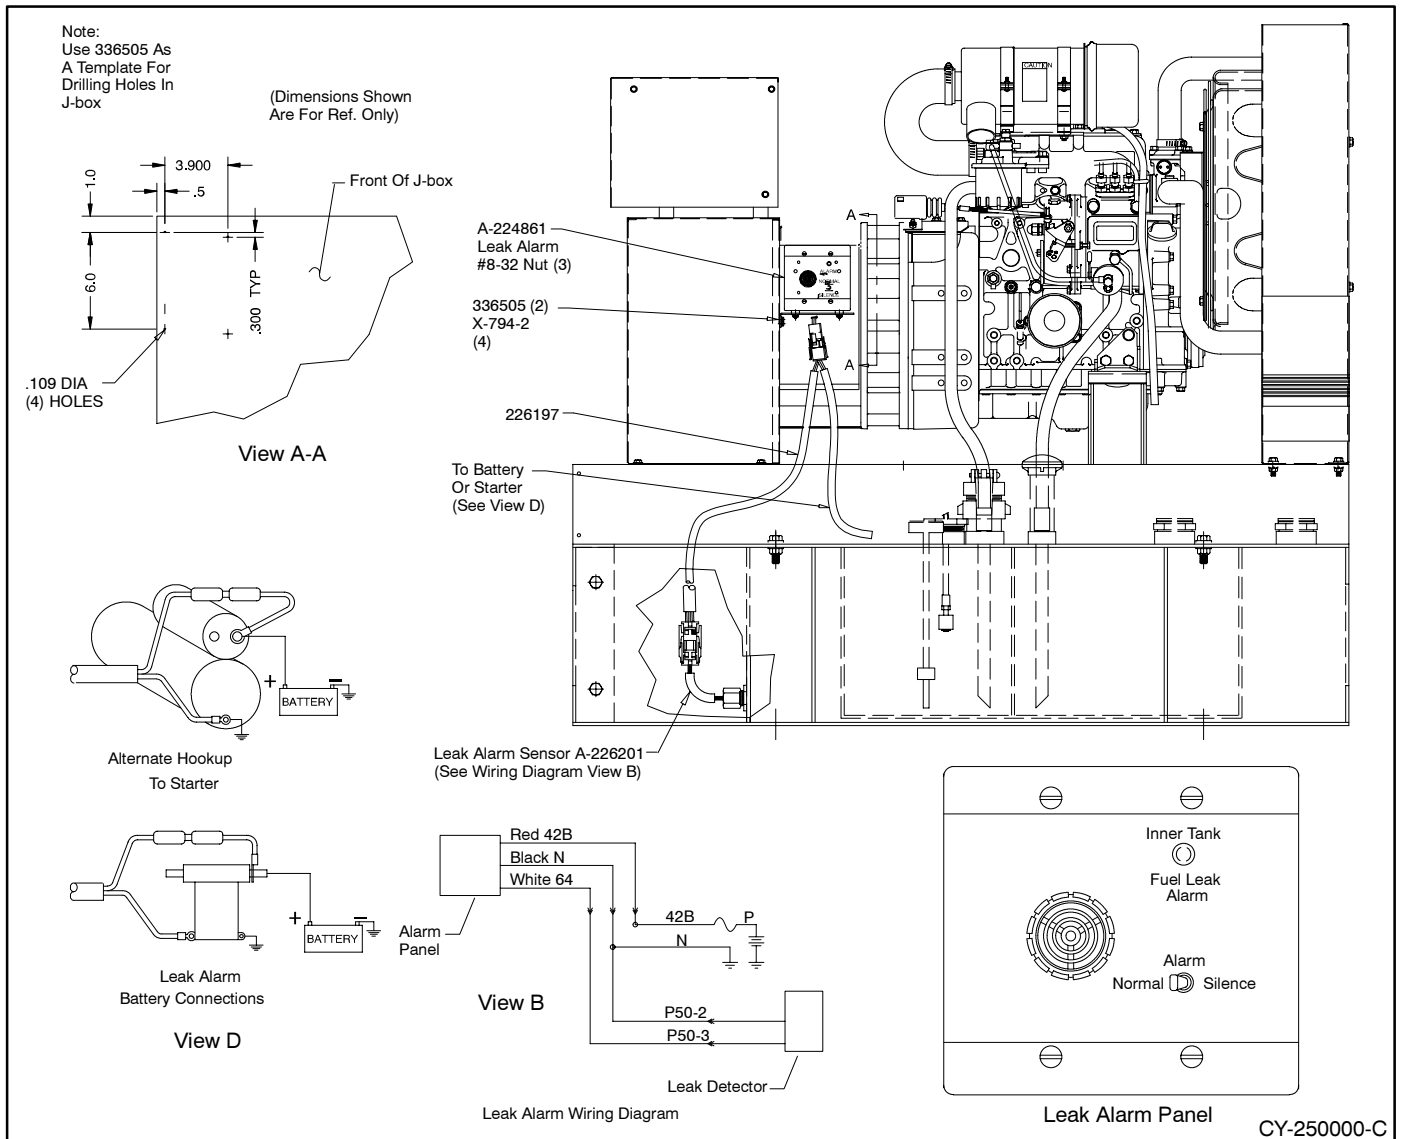

Figure 1 6-15 kW Double-Wall Subbase Fuel Tank Leak Alarm Installation
4. Mount annunciator box assembly to junction box. See Figure 1 for mounting location.
5. Remove pipe plug from tank for leak alarm sensor. See Figure 1 for pipe plug location. Apply pipe sealant to threads of leak alarm (A-226201) and install in tank.
6. Connect leak alarm wiring harness (226206) to annunciator box assembly and leak alarm sensor. See Figure 1.
7. Connect wire harness power leads to either battery or starter. See Leak Alarm Battery Connections Figure 1.
See Figure 1 Leak Alarm Panel view.